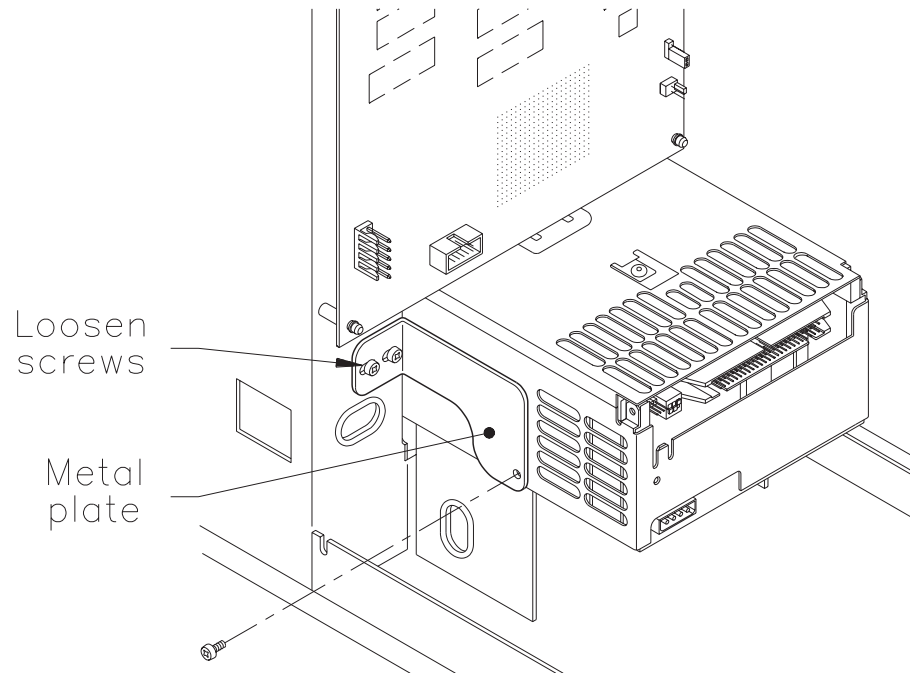

Figure 5-4 CTS screws (right side view)
5. If your EXB-10i has a metal plate that attaches to the inner frame and to the CTS on the right side of the EXB-10i (shown in Figure 5-4), use a T-15 TORX driver bit to loosen the two screws that hold the plate onto the inner frame (shown by the arrow).